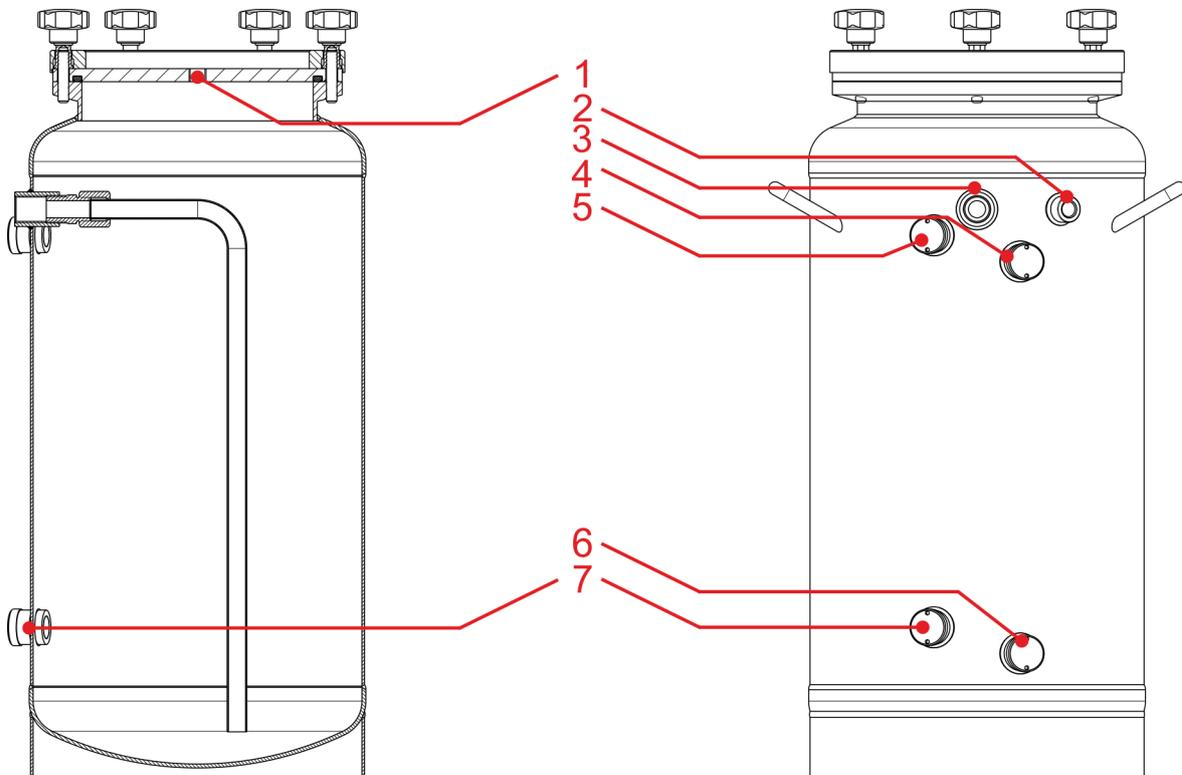

Fig. 4: Connections relevant to installation
- Product line (Fig. 4, item 3).
- Capacitive sensor for the empty signal (item 6) and/or level pre-warning (item 7).
- Capacitive sensor for the full signal (item 4) and/or overfill signal (item 5).
- Compressed air line/pressure regulator with a pressure gauge (item 1 or optionally item 2).